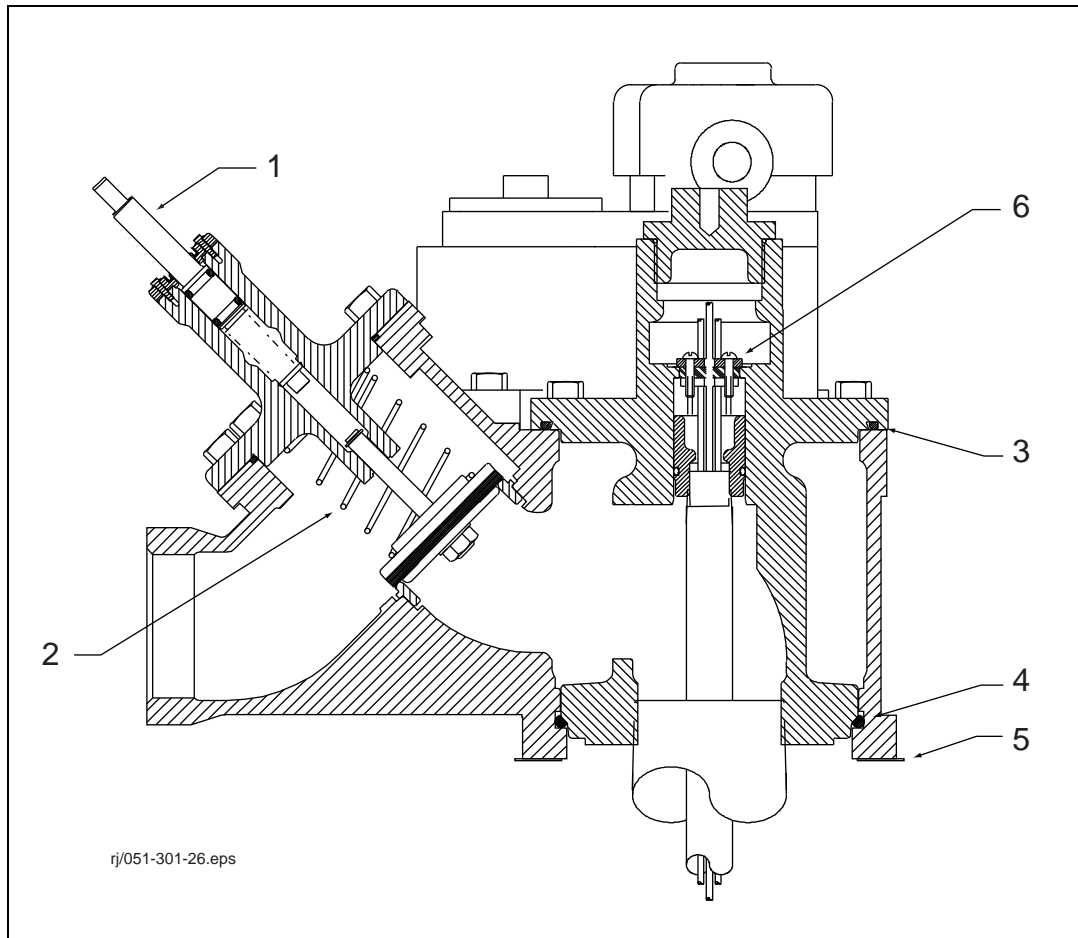

Figure 19. Check Valve and Electrical Bushing Assembly
1. Replace the lower o-ring (see Figure 19, Item #4) in the manifold and the one in the lower face of the Extracta head (see Figure 19, Item #3).